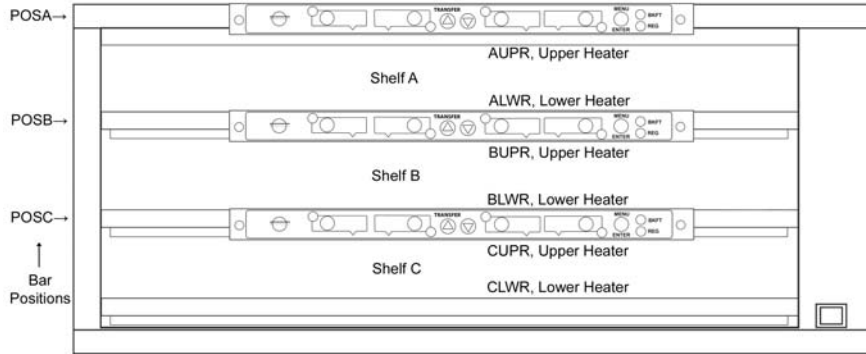

Figure 1
The bin heater temperature display and control have been incorporated into the POSA Main time bar of the Popeye's DHB3PT-41 bin. This bin has three Main timer bars on the front. Figure 1 shows the default bar positions POSA, POSB, and POSC. Refer to the Timer Bar Positions below. The timer bar set for position POSA control the bin heaters. The timer bars for positions POSB and POSC do not have heater control.
4. Use the Up and Down Arrow buttons to scroll to the heater to adjust. The display will cycle through heaters AUPR, ALWR, BUPR, CUPR and CLWR-> See Figure 1 above for shelf and heater locations.